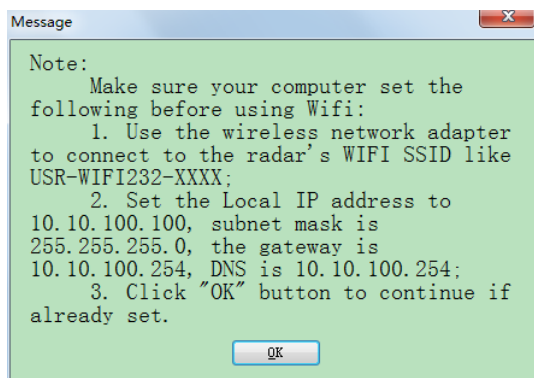

Figure 3.7: Dialog box is displayed to change IP.
- (5) The prompt interface will be displayed after clicking WIFI, as shown in figure 3.7